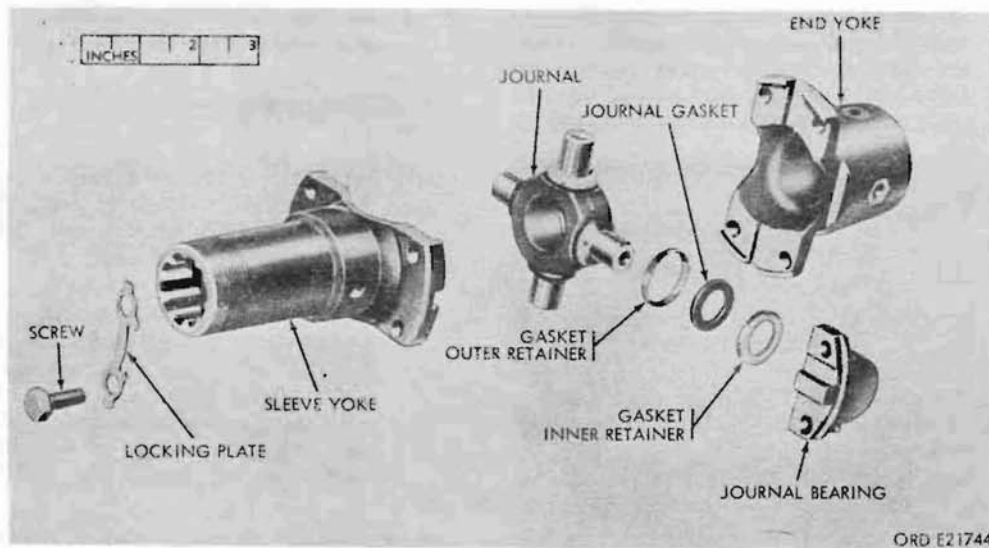

Figure 309. Lock plate-type universal joint - exploded view
- (1) General. Universal joints should be repaired whenever excessive wear is indicated by looseness in bearings between journal and yoke. Repair kits are available for maintenance of universal joints.
- (2) Removal (fig. 309). Bend down lugs on locking plates, and remove two screws and locking plate from each side of end and sleeve yokes. Remove journal with bearings from end and sleeve yokes. Remove gasket inner and outer retainers and journal gasket from bearings. Discard gasket.
- (3) Cleaning. Clean all parts thoroughly with dry-cleaning solvent or mineral spirits paint thinner. Blow dry with compressed air. Inspect parts for nicks, burs, or excessive wear. Replace with new parts where necessary.
- (4) Installation. Install gasket inner and outer retainers and new journal gaskets on journal. Work automotive and artillery grease (GAA) into bearings